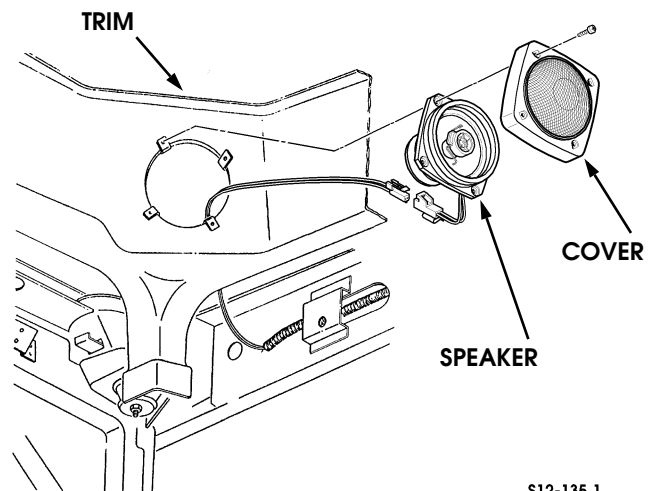

Figure 12-141: Right Front Speaker Models 83, 84 & 91.
4. Remove four screws, clips, cover, and right front speaker from trim (Figure 12-141).
8. Connect two leads to right front speaker (Figure 12-141).